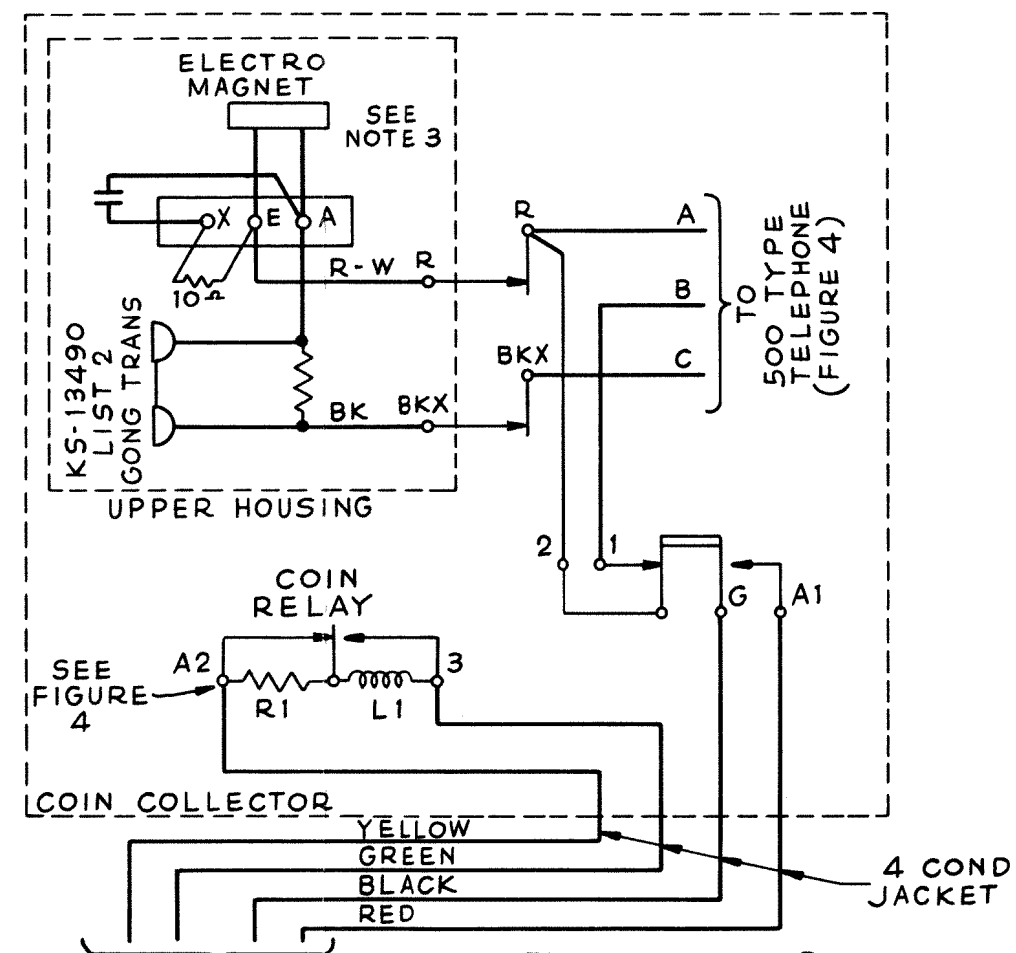

FIGURE 6
1	Collector, Coin, 233GR-3 (Figure 6)
- b. Upper housing rewired as shown in Figure 6.
(See Figure 6 and Figure 7)